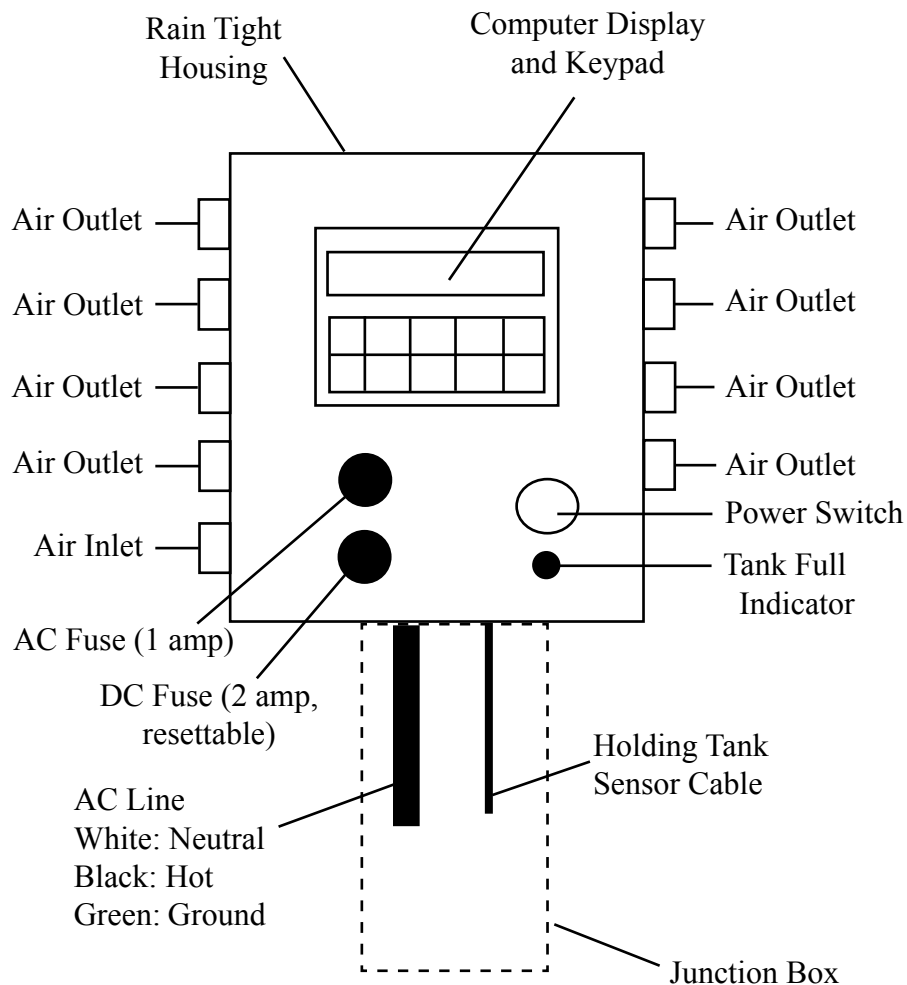

Figure 3
STEP 1. Mount programmable Controller Model 5500ES (Figure 3) in a vertical position near the air source, power source, and holding tank, if possible. **CAUTION:** The Model 5500ES is NOT intrinsically safe. If this controller must operate in a CLASS I area, use the XITECH Model 2550ES CLASS I Controller instead. Air supply needs to be free of WATER and OIL to have minimum maintenance.
STEP 2. Install holding tank shutoff assembly into holding tank ( a 2" standard pipe inlet will be required in the holding tank). The level of product in the holding tank can be set by raising or lowering the liquid level sensor attached to the rod. Wire the sensor cable into the controller (Figure 3). **NOTE:** If additional signal cable is needed to position the holding tank assembly further away from the controller, use 18 gauge 2-conductor wire.
STEP 3. Attach power line from the AC Line to the controller (Figure 3). Turn on the controller power switch. If the red "Product Tank Full" light stays on, you have a problem with tank shutoff wiring. Turn off the power switch and re-check the tank shutoff wiring. If the light continues to stay on, call the factory.